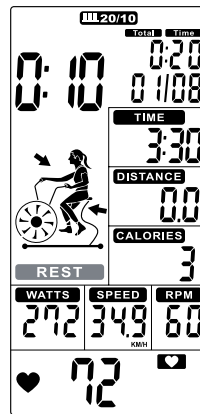

Figure 30
4. During the **REST** phase, the cycle timer will count down from 20 to 0, and the **REST** icon will flash once per second. The buzzer will sound once per second. In the final 3 seconds of the countdown, the **READY** icon will flash (see Figure 30).